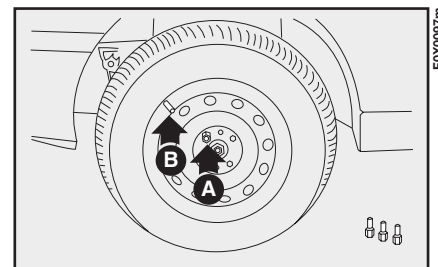

fig. 116
- 9) Tighten one of the bolts A-fig. 116 near inflation valve B.